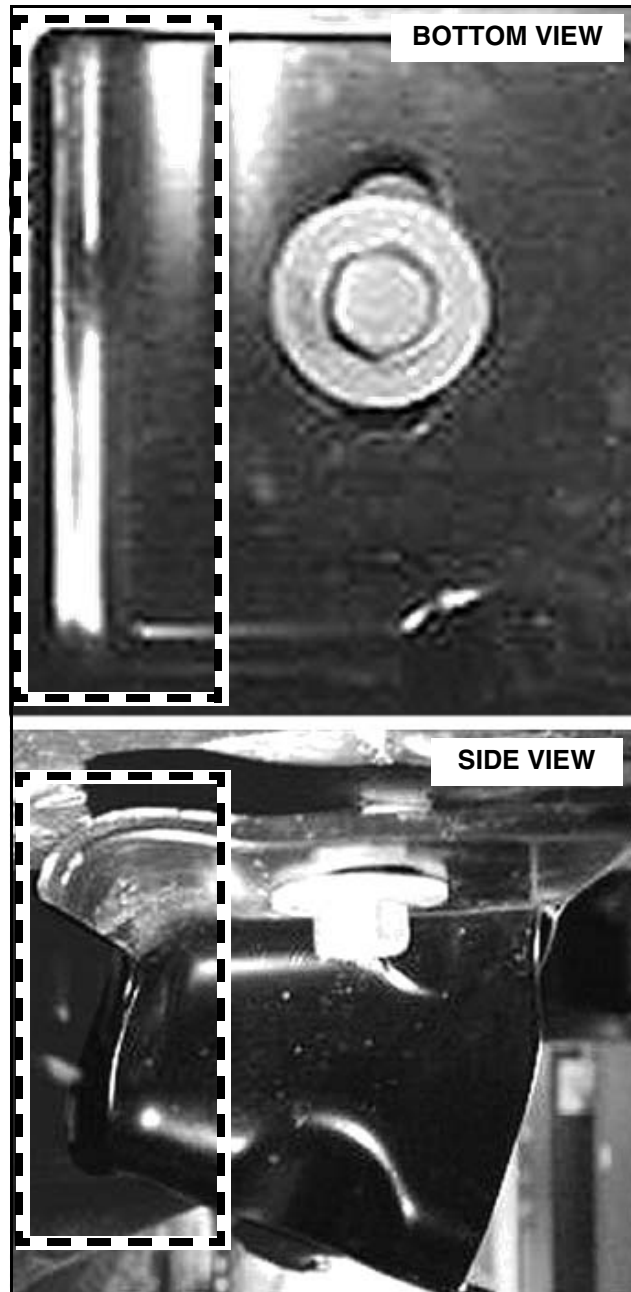

Figure 4
6. Draw a line roughly 5/8" in from the back side of the intercooler bracket. Then, cut away everything within the white outlined squares seen in the images below. This is done so the side weldments can sit flat against the bracket. Do this on both sides. (See Figure 4)